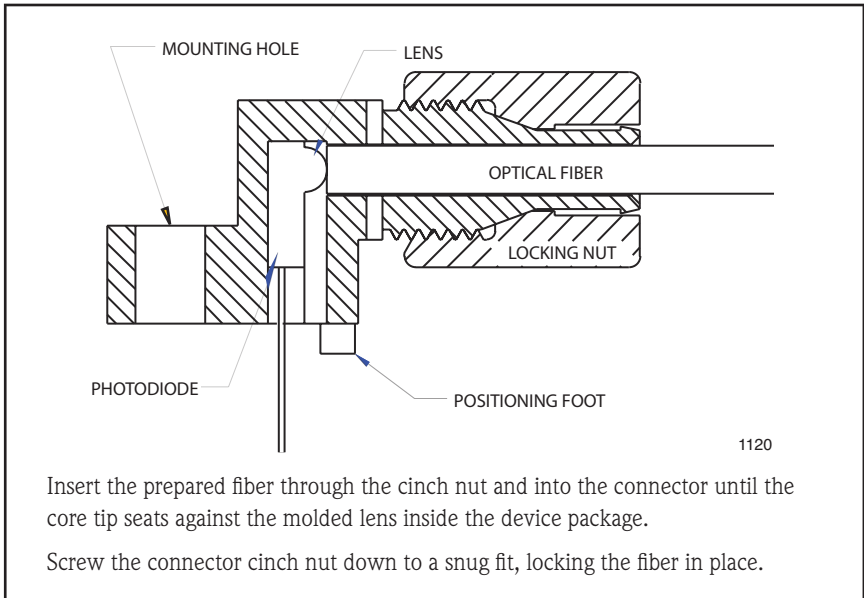

Figure 4. Cross-section of fiber optic LED and cable.
- A11.** Connect the transmitter and receiver assemblies with the optical fiber, following the steps in **Figure 4**. Move the transmitter and receiver printed wiring boards as far apart as the fiber length will allow.